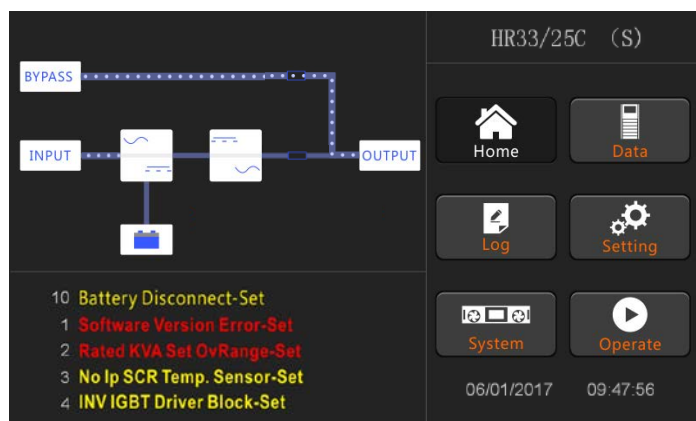

Fig.5-2 Interface of bypass starting
- (1) After about 30S, the rectifier start is completed, the bypass static switch is on, and the bypass indicator flashes. As shown in Figure 5.2